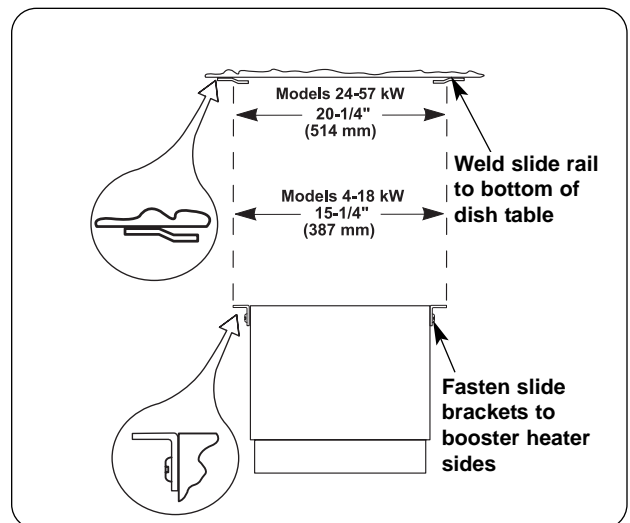

Figure 5. Hanging Support
5. On Compact Series, when installing unit with mounting brackets, space slide rails as shown in Figure 5 and weld rails to bottom of dishtable.
7. Attach slide brackets to sides of heater with 3/4 x 8 sheet metal screws supplied. (See Figure 5.)